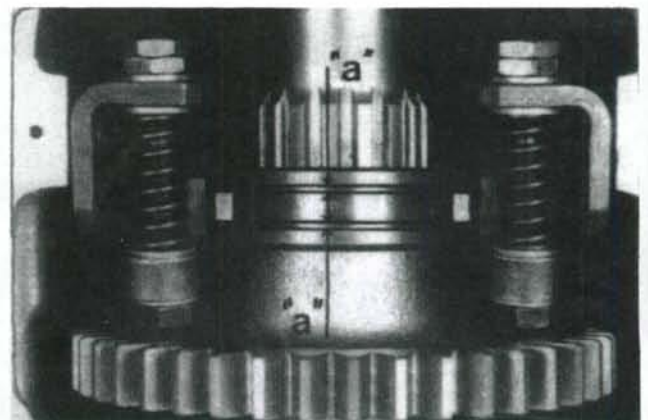

Fig. 30—Adjust nuts and bolts on shift mechanism until shift pads on yoke are center in selector collar as shown at "a."
When reassembling, use new "O" ring (37) and oil seal (9), then reassemble by reversing the disassembly procedure. With reassembly completed, adjust bolts and nuts (29 and 33) until shift pads (28) on yoke are centered in selector collar (13) as shown at (a—Fig. 30). Clearance should measure 0.0394 inch (1.0 mm) on each side when correctly adjusted. Lock the nuts together.